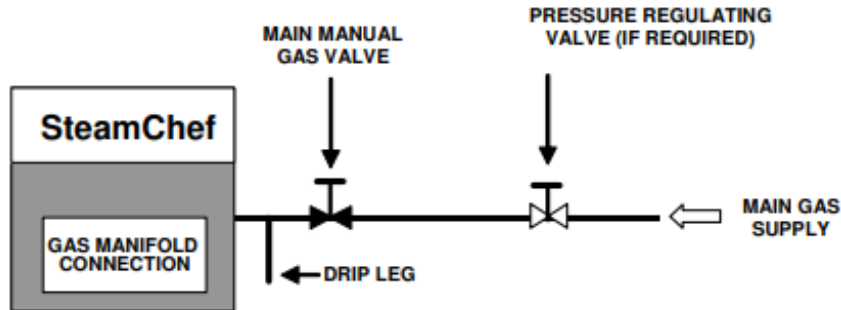

Figure 3-3 Gas Supply Line Layout
- If the gas supply pressure exceeds 14" water column, a pressure regulating valve (pressure regulator) must be installed in gas supply plumbing to reduce pressure to the SteamChef. See Figure 3-3.
- a) Refer to Figure 3-3 for the recommended layout of the gas supply lines.
- d) Install main manual shut off valve between gas supply and the SteamChef. See Figure 3-3. This main manual shut off valve is called the "Main Manual Gas Valve."
- e) Install a sediment trap (drip leg) in gas supply line. See Figure 3-3.